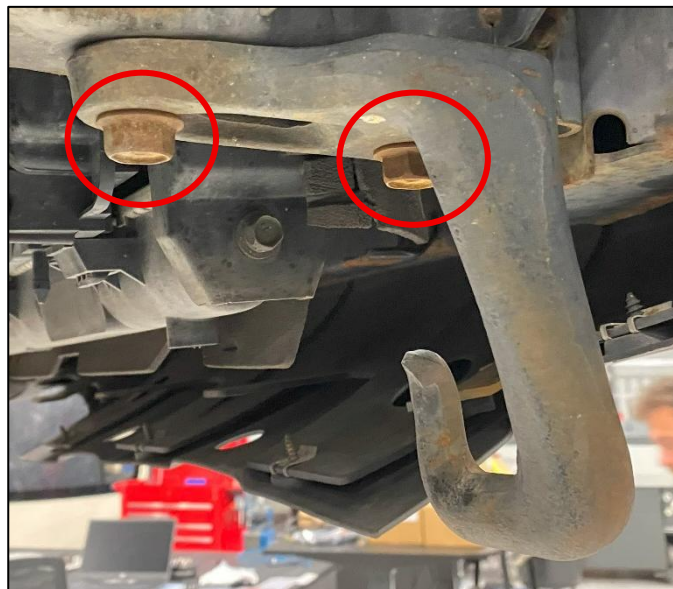

Figure 10
15. Remove the (2) two bolts securing the OE Tow Hook and remove the Tow Hook. *Figure 10.*